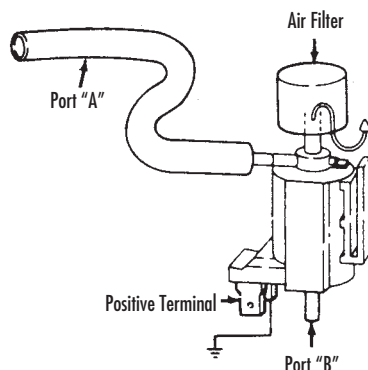

FIGURE 14: TYPICAL VACUUM SOLENOID
1) Disconnect vacuum and electrical connectors from the solenoid. Connect the pump to port "B" and attempt to apply vacuum with pump. Vacuum should be released through port "A" (FIGURE 14).